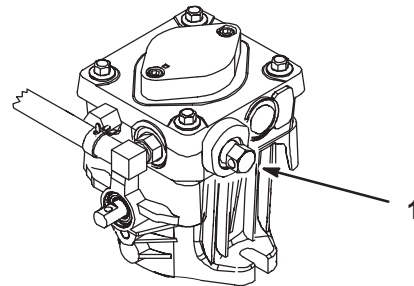

Figure 22
3. Rotate the by-pass valves counterclockwise 1 turn to push. This allows hydraulic fluid to by-pass the pump, enabling the wheels to turn (Fig. 22).
Turn the by-pass valves in to operate the machine (Fig. 22).